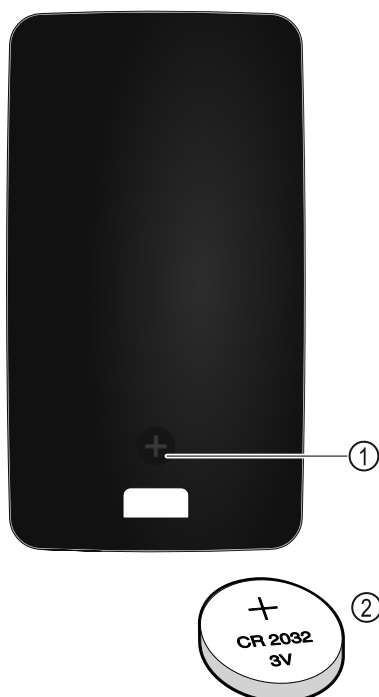

Fig. 149
The remote control is powered by a 3V CR 2032 battery Fig. 149 (2) available from specialist retailers.
- Undo screw Fig. 149 (1) on the back of the remote control.